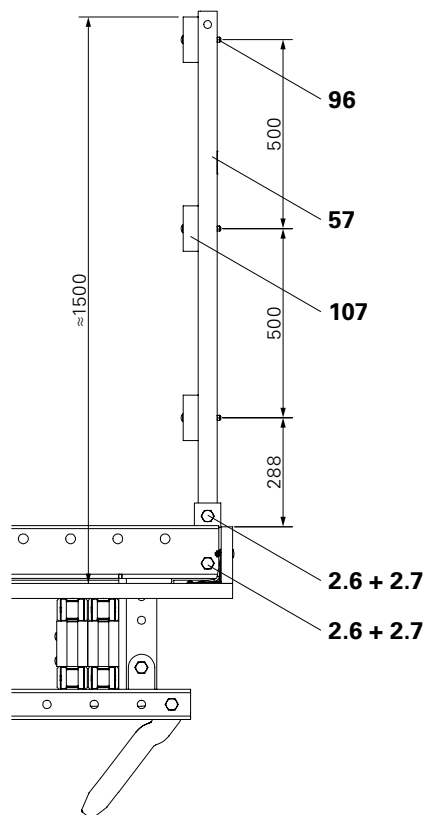

Fig. B1.19a
1. Fix Guardrail Post SCS 150 (57) to Crossbeam Unit SCS 250 (2) using bolts ISO M20 x 120-8.8 (2.6) and nuts ISO 7040 M20-8 (2.7).
2. Position plank L x 12 x 4 cm (107) on Guardrail Post SCS 150 (57).
4. Connect Guardrail Post SCS 150 (57) and planks L x 12 x 4 cm (107) using F.H. bolt DIN 603 M8 x 100 MU (96). (Fig. B1.19a)